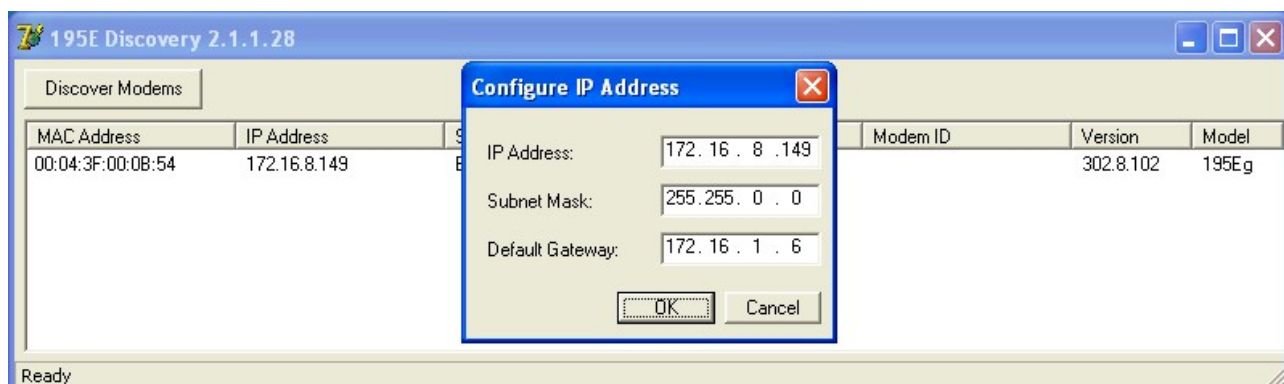

Figure 5: Change IP Address Window
- Double-click on the 195E you want to program and the *Configure IP Address* window will be displayed (Figure 5). Enter an IP address and Subnet Mask for the 195E that matches your network subnet and press the OK button to save this to the ESTeem. You will receive notification that the Configuration was Successful and the 195E will reboot.